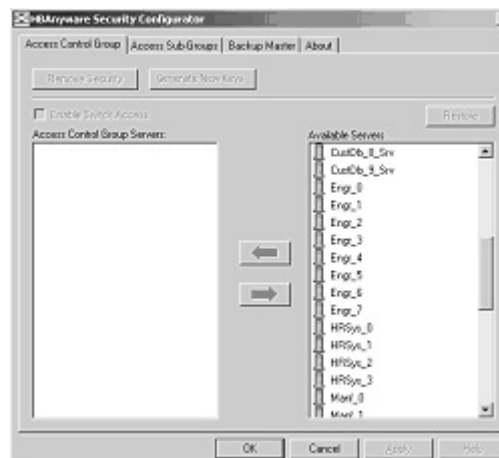

Figure 80: HBAnyware Security Configurator, Access Control Group Tab, No ACG Servers
2. Click **OK**. The Access Control Group tab appears (Figure 80).
1. From the MSC, start the HBAnyware Security Configurator. The Access Control Group tab appears (Figure 80 on page 119).